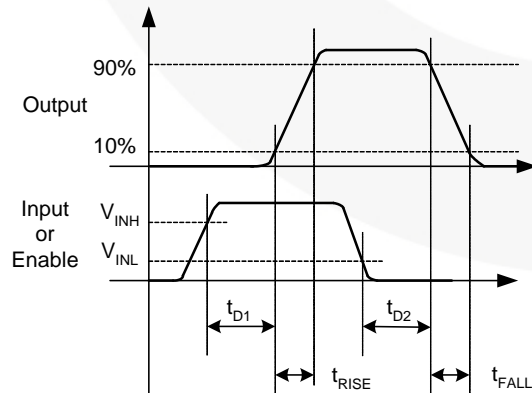
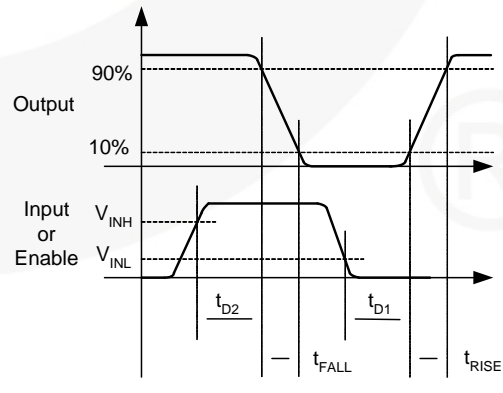

Figure 4. Non-Inverting
Figure 5. Inverting
- 11. See the *Timing Diagrams of Figure 4 and Figure 5.*